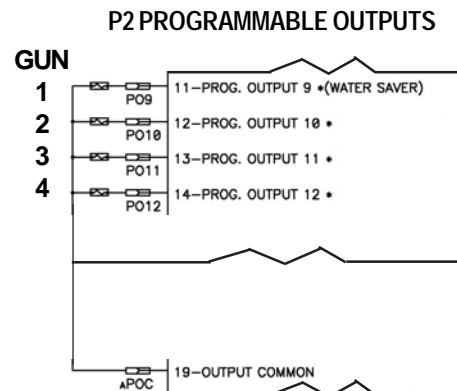

Figure 9-20. *Multiple valve connection*
2. Connect four valves associated with Guns 1-4 to connector P2 as shown in Figure 9-20.
2. Connect four valves associated with Guns 1-4 to connector P2 as shown in Figure 9-20 (see Section 9.5.1).